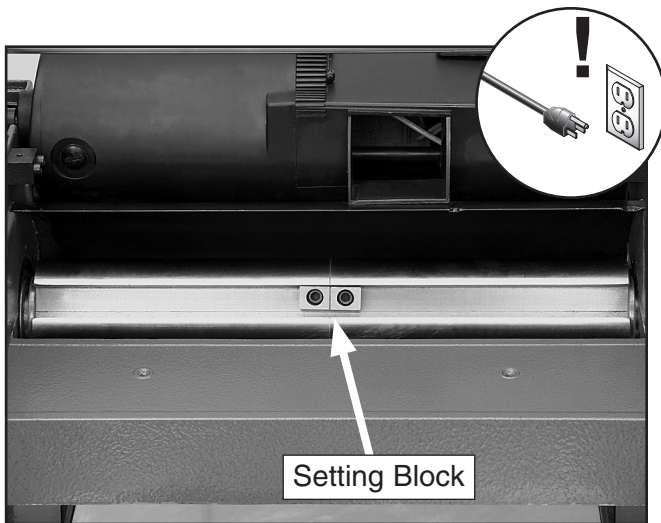

Figure 18. Moulding knife slot.
2. Push the cutterhead lock down, and rotate the cutterhead until the moulding knife slot is visible, as shown in **Figure 18**, then release the cutterhead lock and slightly rotate the cutterhead in either direction until it locks.